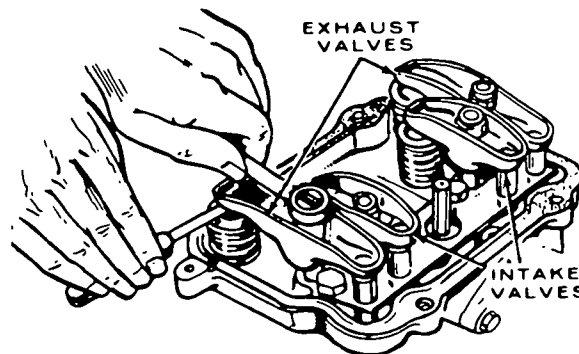

FIGURE 19. CHECK VALVE CLEARANCE
4. Using a feeler gauge, check the clearance between the rocker arm and the valve (see Figure 19). Increase or decrease the clearance until the proper gap is established. Valve clearances are given in the *Specifications* section.